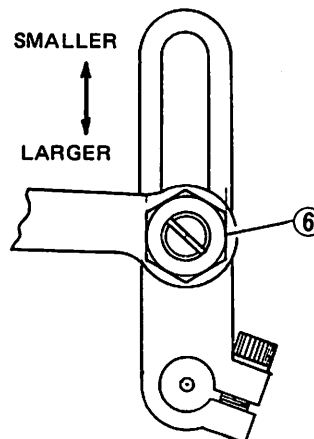

Fig. 3
ADJUSTING THE AMOUNT OF THE ROLLER FEED (See Fig. 3)
Adjust the position of connecting rod end on the adjustable crank by loosening the lock nut (6) to matching stitch length or slightly larger if required by the application. The amount of the roller feed will become smaller when the connecting rod end of the adjustable crank is raised and becomes larger when crank is lowered. (See Fig. 1 and Fig. 3)